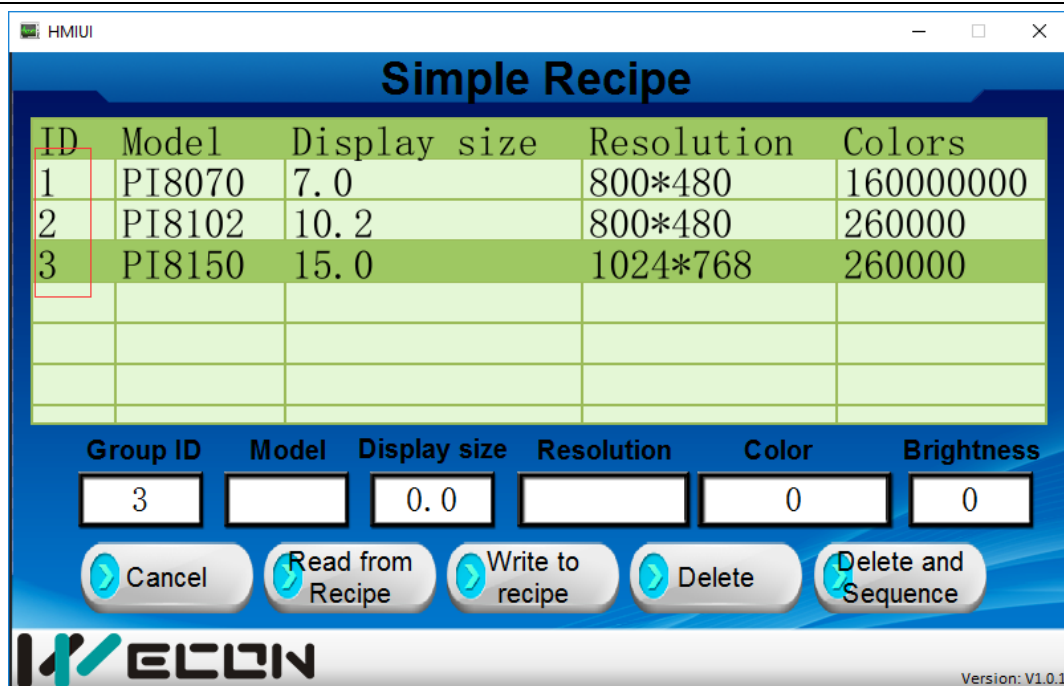

Figure 8
- 3) Click "Delete and sequence", it will delete corresponding group and rearrange ID number as figure 8 shows.